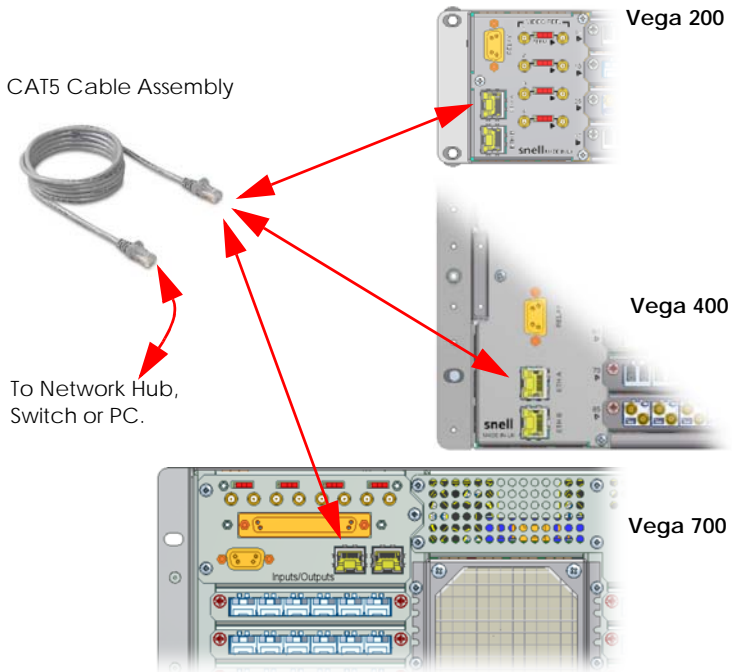

Figure 11: Rear Ethernet Network ports
1. Connect a standard CAT5 cable to port ETH 1 on the rear of the Vega router (see **Figure 11**).